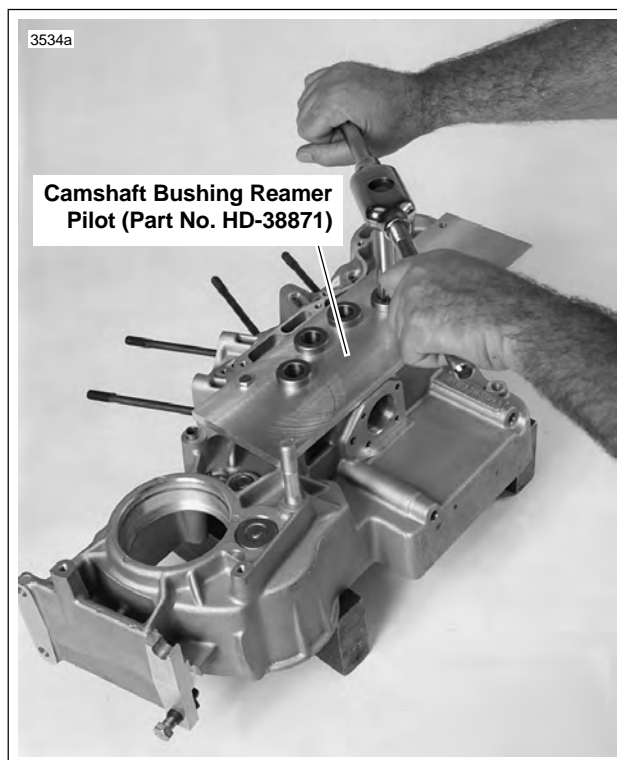

Figure 3-66. Reaming Cam Gear Bushing in Right Crankcase Half
2. See Figure 3-66. Position CAMSHAFT BUSHING REAMER PILOT (Part No. HD-38871) onto gearcase side of crankcase half; upper right and lower left indexing holes in pilot must be placed over dowels in crankcase half. Insert two bolts (supplied with pilot) through two remaining holes in pilot, and into threaded holes of crankcase half. Tighten bolts securely.